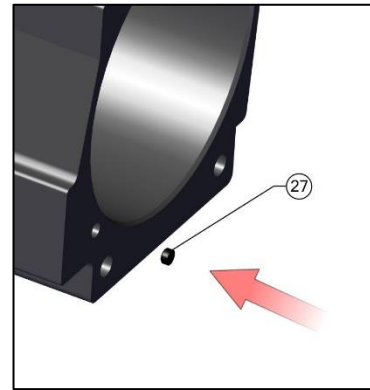

Fig No.31
- a) Fit the transfer plug (27) inside the Body on each side (refer fig no.31)